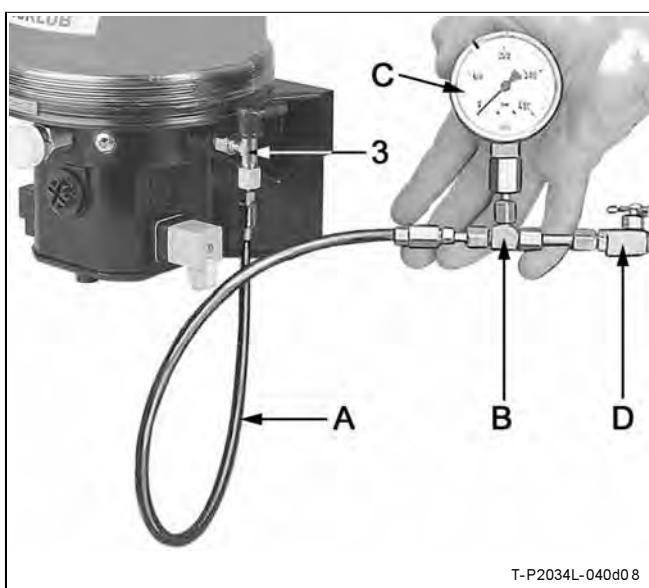

Fig. 9-4 Check the pressure relief valve
- ⇒ Connect the pressure gauge C (0-600 bar, 0-8708 psi) to the pressure relief valve 3 (see Fig. 9-4).